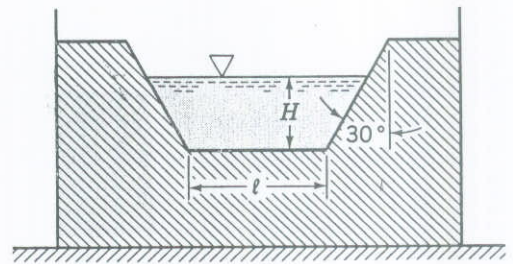

FIGURE P3.110
3.110 A weir (see Video V10.13) of trapezoidal cross section is used to measure the flowrate in a channel as shown in Fig. P3.110. If the flowrate is  $Q_0$  when  $H = \ell/2$ , what flowrate is expected when  $H = \ell$ ?